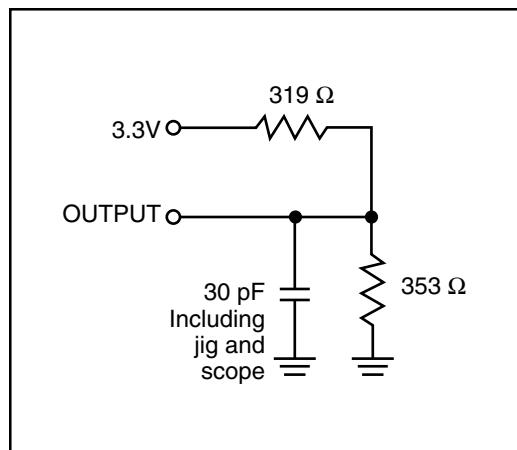

Figure 1
1. Test conditions assume signal transition times of 3 ns or less, timing reference levels of 1.5V, input pulse levels of 0 to 3.0V and output loading specified in Figure 1.
Output Load	See Figures 1 and 2
- Test conditions assume signal transition times of 3 ns or less, timing reference levels of 1.5V, input pulse levels of 0 to 3.0V and output loading specified in Figure 1.